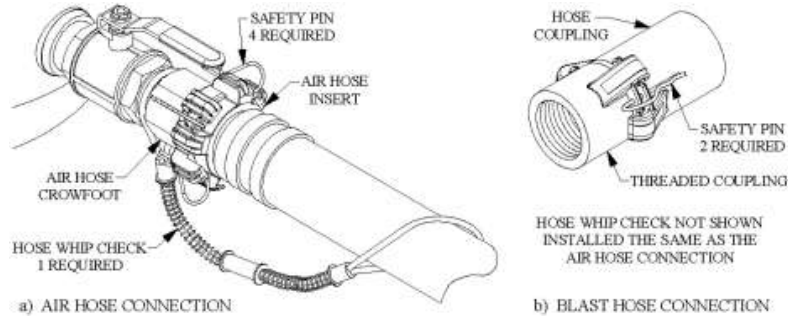

Figure 8.2 – Hose Connection Disconnect Protection
- 8.7. **Blast and Air Hose Couplings:** All air hose, blast hose, and threaded couplings have two pin holes that align when connected. To protect against accidental hose disconnections, safety pins must be installed through these holes. Each hose connection must also include a hose whip check that will hold the hose if there is an accidental disconnection. Connect one loop to each side of the connection and stretch out as shown in Figure 8.2 below. Check hose connections daily and replace missing or damaged pins and whip checks.